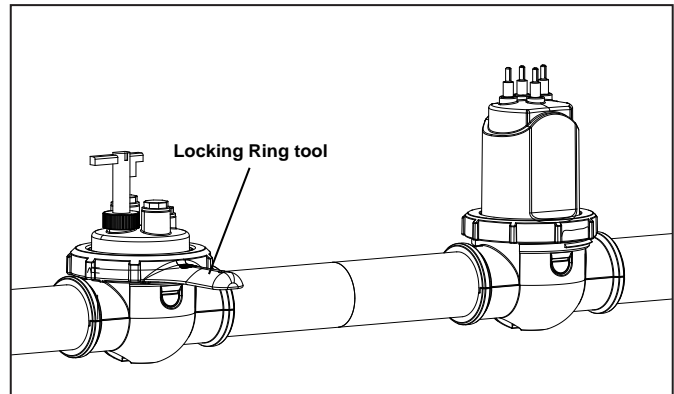

Figure 14. Locking Ring Tool
14. Screw down the locking ring to the threaded clamp using the locking ring tool (see Figure 14).